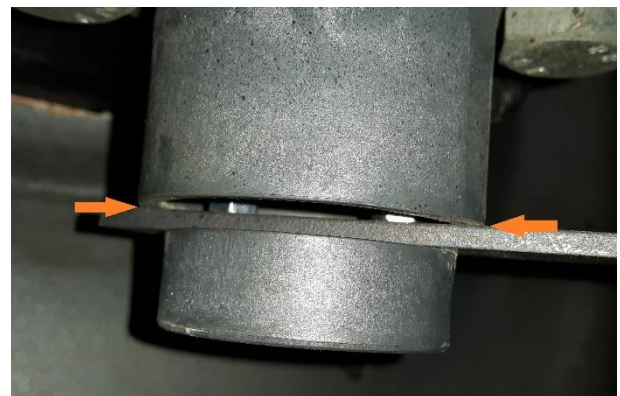

FIGURE 24 DISC AT THE OTHER SIDE OF THE STRIP
11. Remove the strip again and mount the sensor disc on the bottom of the strip (Figure 24).
13. Check if the sensor disc is properly centered with the sensor housing. The strip has to lie flat under slight pretention against the sensor housing (Figure 24). Also turn the wheels to make sure the sensor housing remains properly centered in various wheel positions.